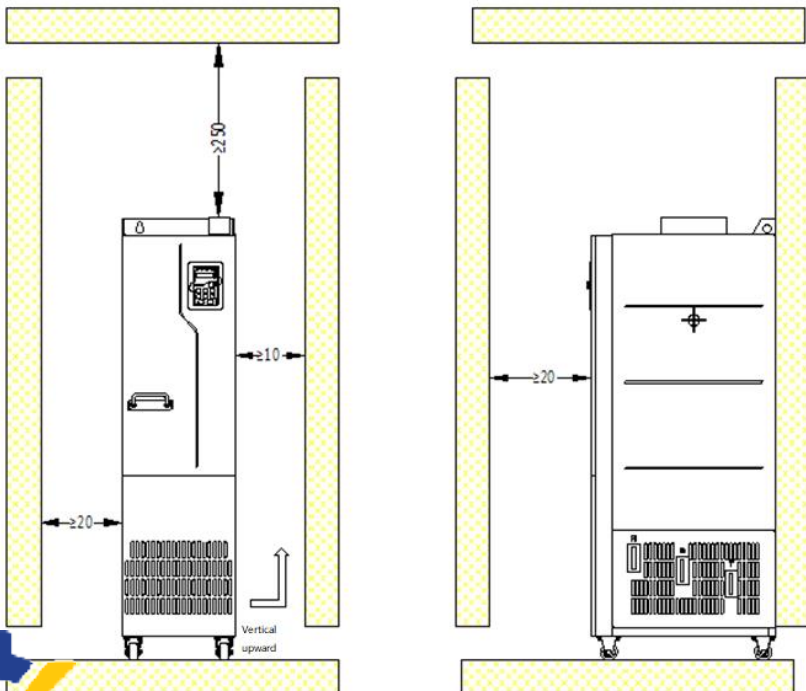

Figure 4-9 Mounting space requirements
- Figure 4-9 shows the mounting space. You not only need to reserve enough heat dissipation space for the VFD but also need to consider the heat dissipation condition for other devices in the cabinet.